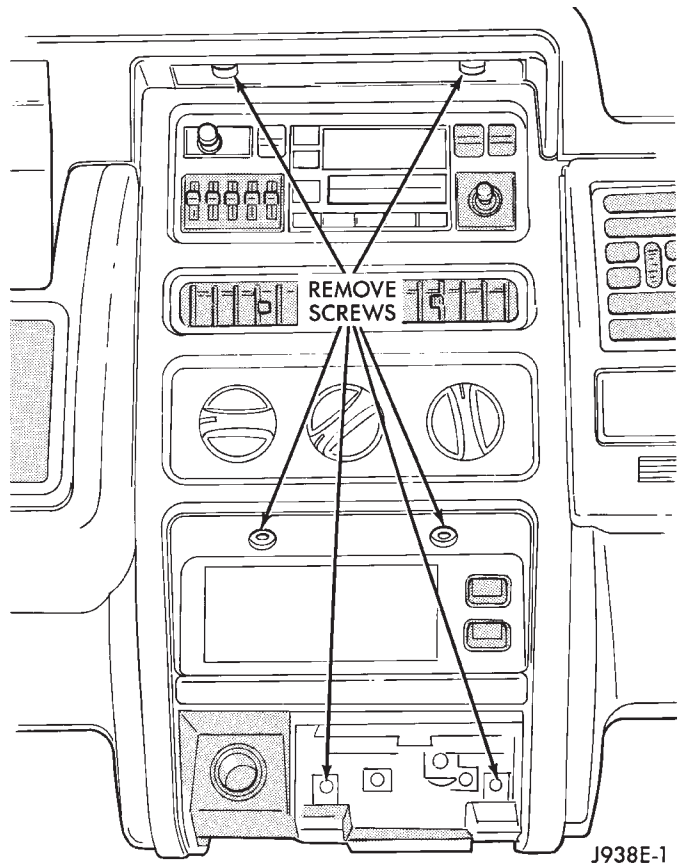

Fig. 8 Remove Center Bezel Upper Screws
- (1) Disconnect negative cable from the battery.
- (2) Remove ash tray.
- (3) Remove 6 screws holding center cluster bezel (Fig. 8).